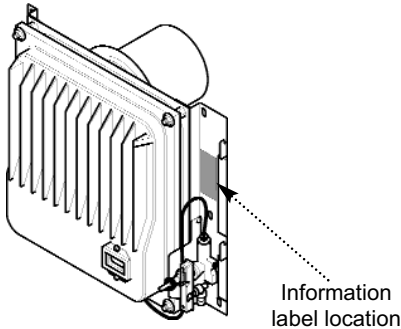

Fig. 4
1. Fire serial number and fascia code (Located on the information label - See figure 4 on page 27).
Serial number (Can be found on information label - See figure 4)